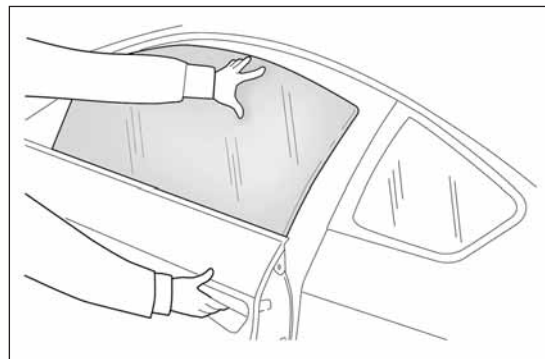

fig. 60
**IMPORTANT** With the central locking on, pulling the internal opening lever for one of the doors switches the locking off for all the doors. In the absence of electrical power supply (blown fuse, battery disconnected, etc.) it is still possible to lock the doors manually. In this case, the automatic lowering function of the windows is not available. Press the window towards the inside of the car (see fig. 60) to open or close the door with the window raised to ease the passage of the window into the moulding.